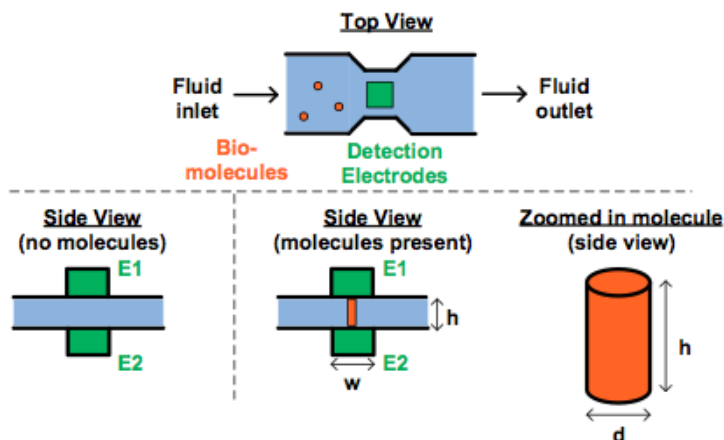

Figure 1: Bio-molecule detector.
As shown in Figure 1, the detector works by flowing a liquid that may or may not contain the biomolecules through a region in the device that has electrodes on the top and bottom of the liquid channel. The electrodes (E1/E2 in Figure 1) are chemically “functionalized” (using e.g. some appropriately designed antibodies), so that if the specific bio-molecule of interest is present in the fluid sample, one or more of the molecules will get physically trapped between the two electrodes (bottom right of Figure 1). After all of the fluid has been cleared out of the device (i.e., so that if there are bio-molecules present, there is only air in between the two electrodes E1/E2), we can then figure out whether or not one or more bio-molecules were trapped by measuring the resistance between the two electrodes.
- Let’s first assume that we want to detect the presence of a bio-molecule by measuring resistance. If no bio-molecule is present, what should be the resistance between E1/E2? As shown in Figure 1, if each bio-molecule is a cylinder with diameter  $d = 10\text{nm}$ , height  $h = 100\text{nm}$ , and has a resistivity  $\rho = 100\mu\Omega\text{m}$ , what would be the resistance between E1 and E2 if only a single bio-molecule has been trapped? Note that you can assume that the trapped molecule is exactly vertically oriented when it is trapped – i.e., the top and bottom faces of the molecule are both aligned with surfaces of the electrodes.